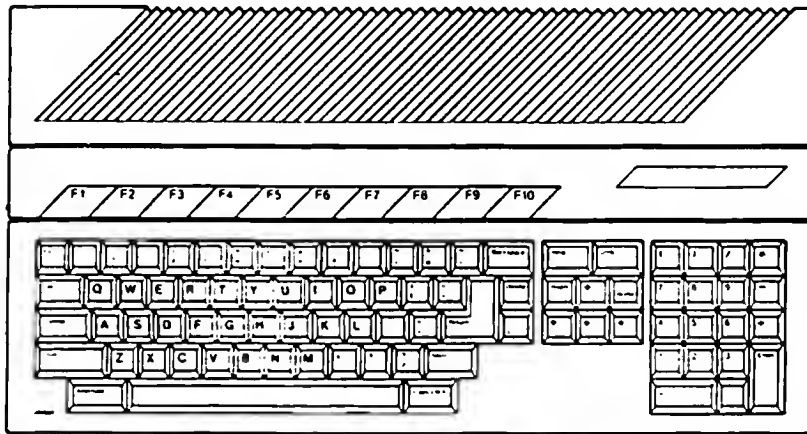

Figure 1.1a
- The 520ST upper case has openings for the keyboard and a lens for the power indicator LED in the front left corner. (Fig. 1.1a).